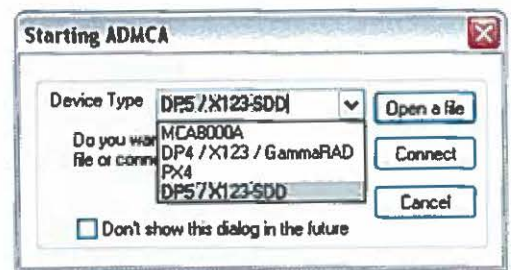

Figure 2: Starting ADMCA
3. When the "Starting ADMCA" box appears as in figure 2, select "DP5 / X123-SDD" and click on "Connect."